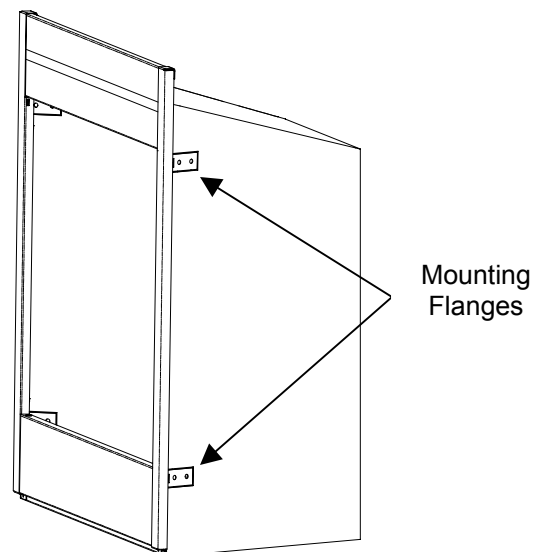

FIGURE 3
5. Place unit in position in the framed opening, level with shims if necessary and attach unit to frame using mounting flanges provided (see figure 3 on page 3).